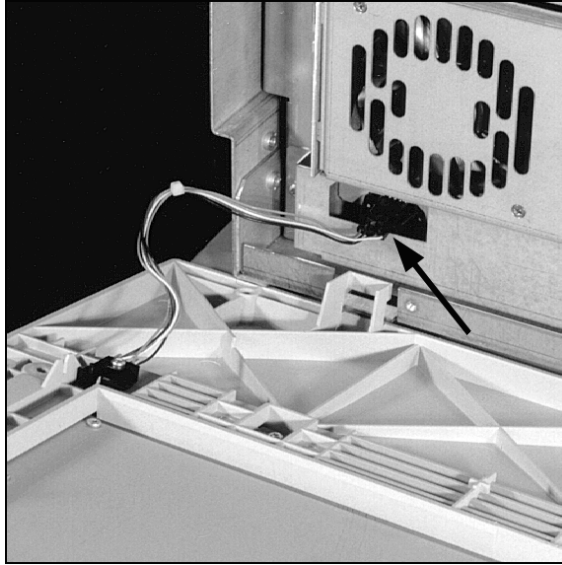

Figure 5-3. Connection for Door Open Sensor Cable
4. Tilt the front access door / bezel assembly forward, and disconnect the door open sensor cable from the lower RFI panel (see Figure 5-3). Remove the access door / bezel assembly.